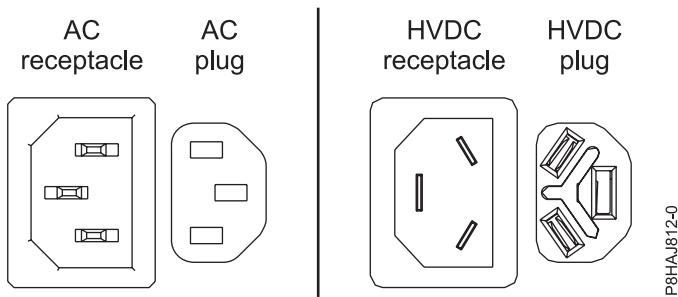
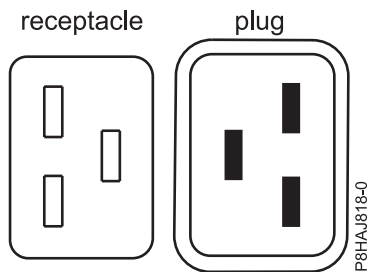
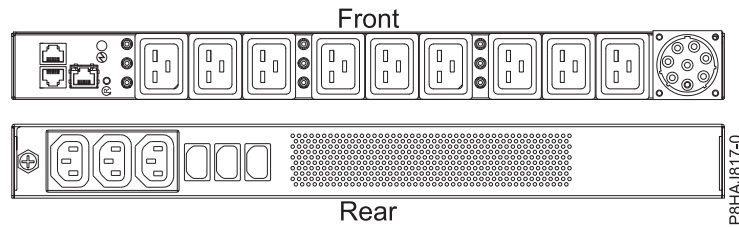

Figure 248. AC and HVDC connectors
Figure 249. Connectors for the 8408-44E system
Figure 250. PDU for the 8408-44E system
Figure 248 shows the supported alternate current (AC) and high voltage direct current (HVDC) connectors. Figure 249 and Figure 250 show the supported connectors and power distribution unit (PDU) for 8408-44E.